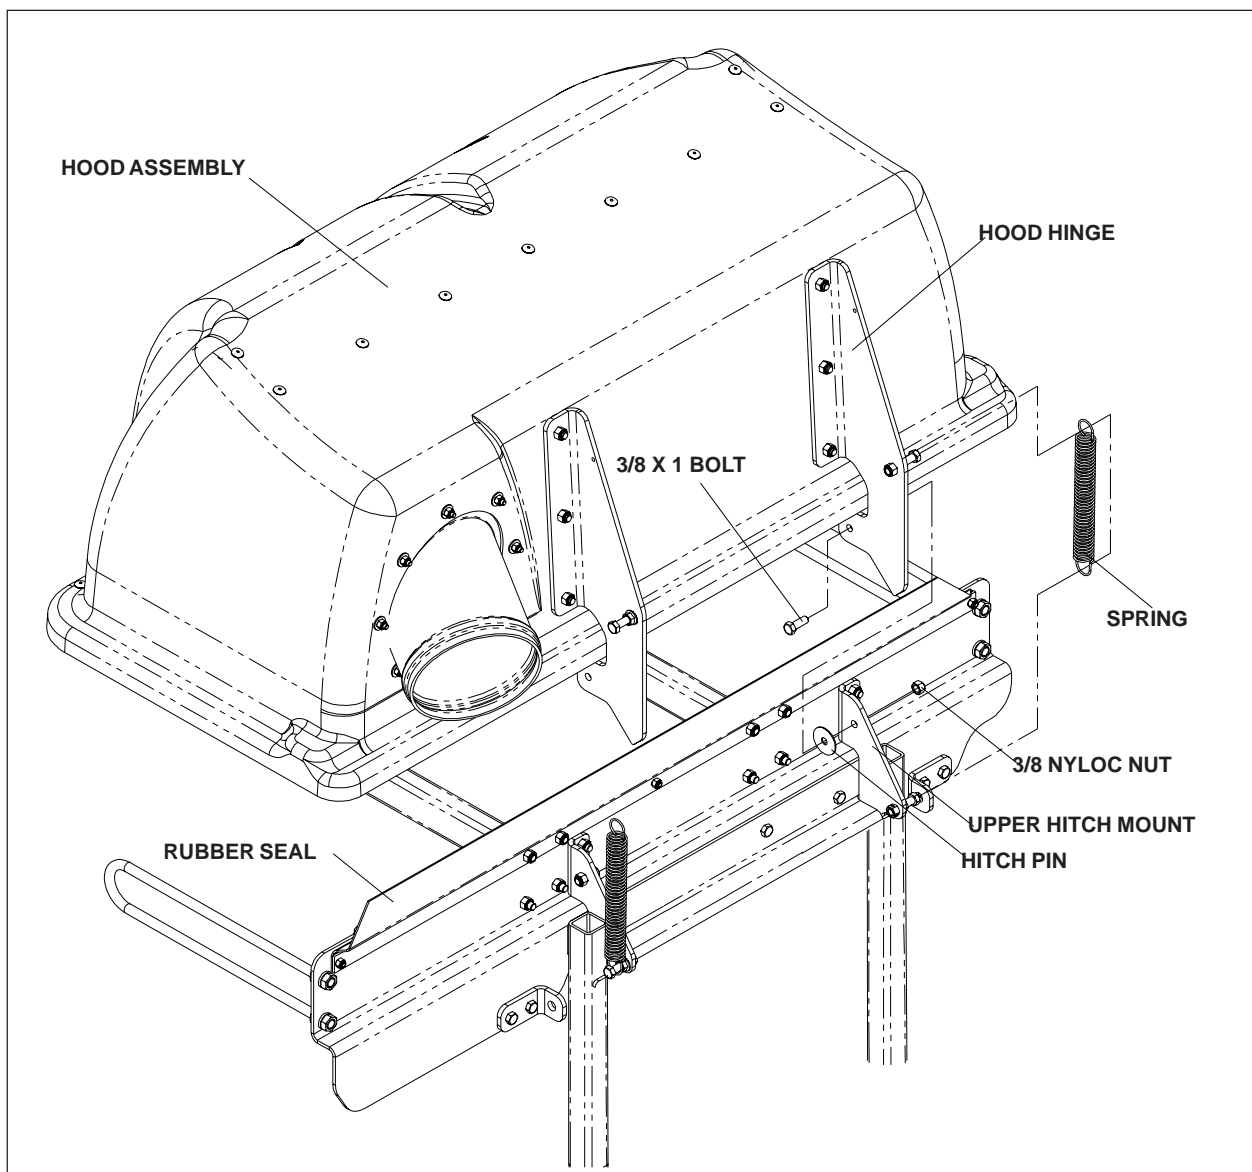

FIGURE 3
4. Place the hitch assembly on the ground behind the mower. Place the (2) hitch pins thru the hitch and the hitch brackets. Secure the hitch pins with the (2) hairpins that are secured with the (2) lanyards. Figure 3.
6. Place the hood assembly on to the hitch assembly. Place both hood hinges between the upper hitch mounts on the hitch assembly. Be sure that the rubber seal is on the inside of the hood. Place the (2) friction washers between the hood hinge and the upper hitch mount. Place (2) 990563, 3/8 x 1 bolt thru the hinge and mount. Secure with (2) 976979, 3/8 nyloc nut. Figure 3.
7. Open the hood and secure the (2) springs to the bolts on the hood assembly and the hitch assembly. Figure 3.